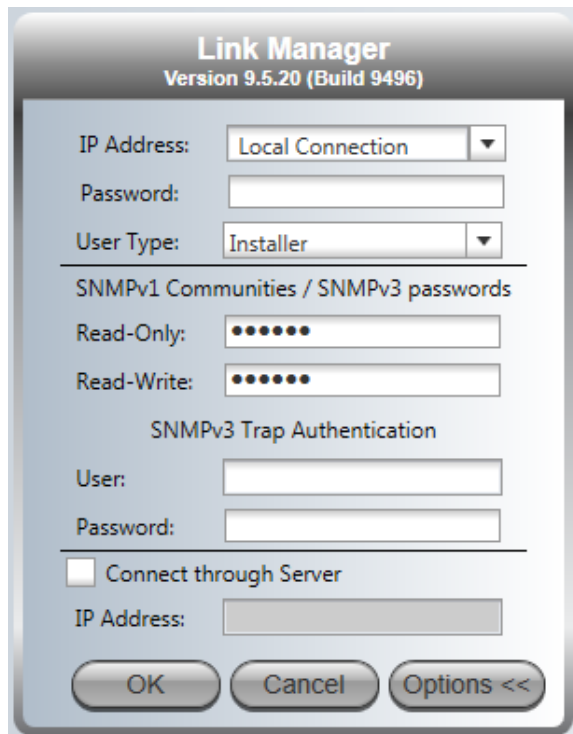

Figure 5-4: Extended log-on window
2. The reply will contain an alternative key, which functions as a temporary master Community String. Copy/paste the supplied alternative key to both the Read-Only and Read-Write fields in the log-on window (Figure 5-4). This gets you to the Link Manager main window.